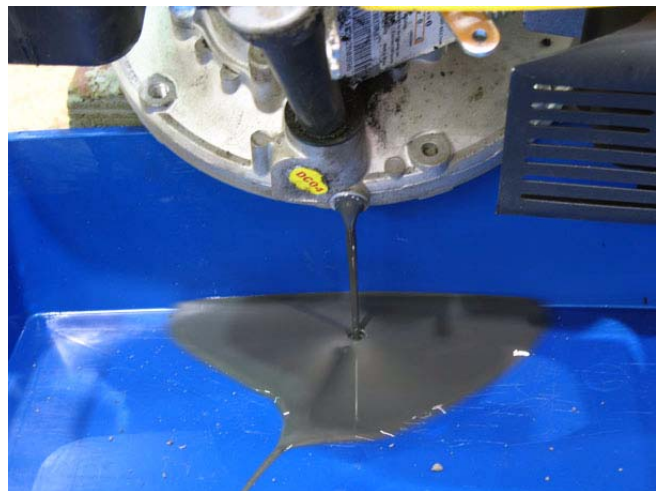

Figure 11.4
7. Abrasive materials that enter the engine get absorbed by the oil and thickens it. See Figure 11.4.